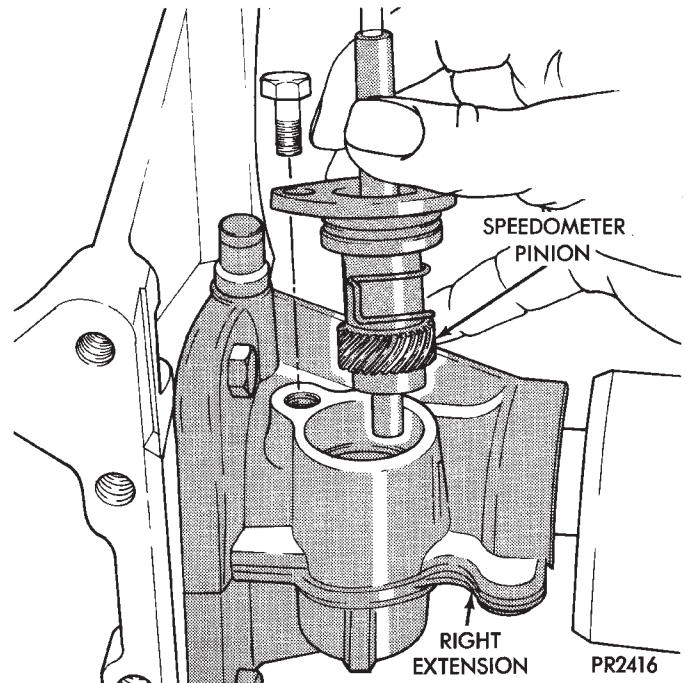

Fig. 14 Install Speedometer Pinion
(5) Install speedometer pinion (Fig. 14).